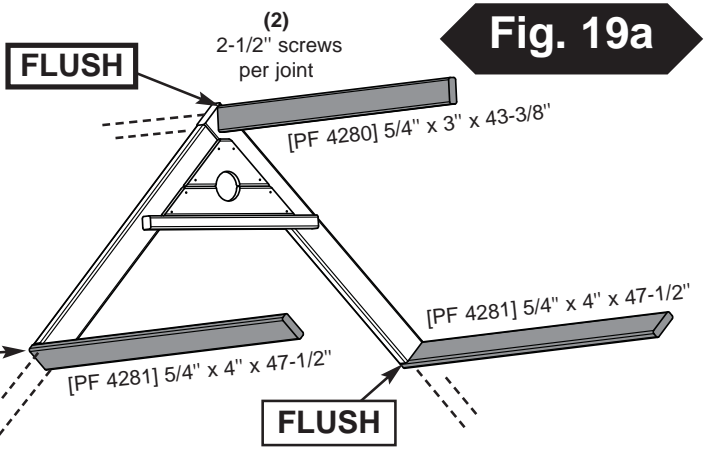

Fig. 19b
3. Attach A-Frames together as shown in (Fig. 19b).